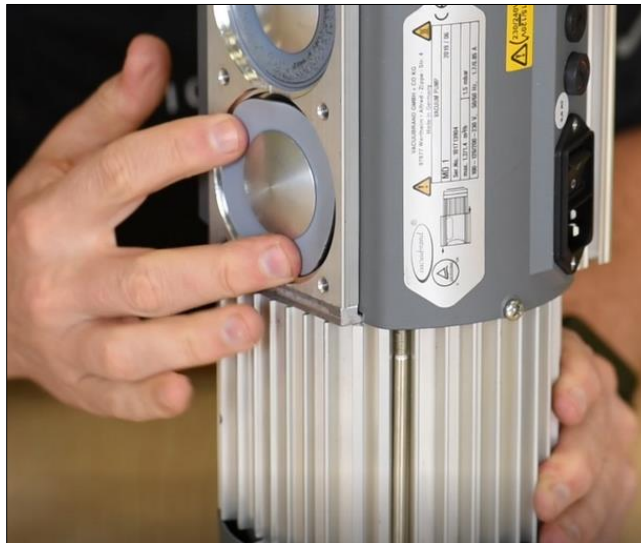

Figure 19: Press Around Diaphragm to Smooth Down
8. Press around the new diaphragm to help seat it (Figure 19). (The diaphragm won't sit perfectly flat until after the head cover is installed – just ensure the diaphragm is properly centered and seated.)